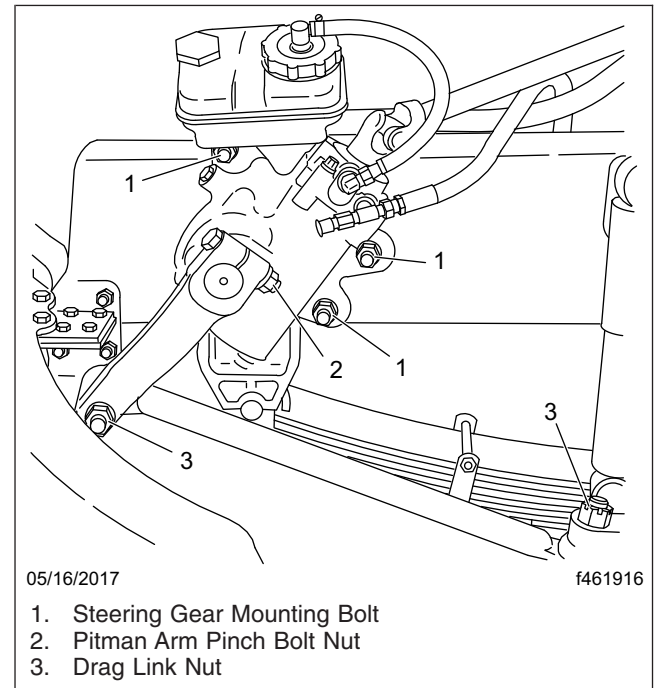

Fig. 21.16, Steering Gear Fasteners
5. Inspect the steering components. See Fig. 21.16.